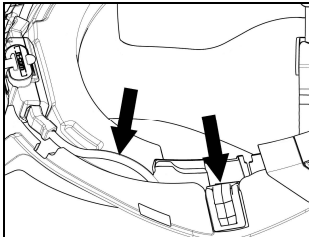

Fig. 12
- Fix the cable inside the helmet and make sure the left fixing clip snaps into its housing (Fig. 12).